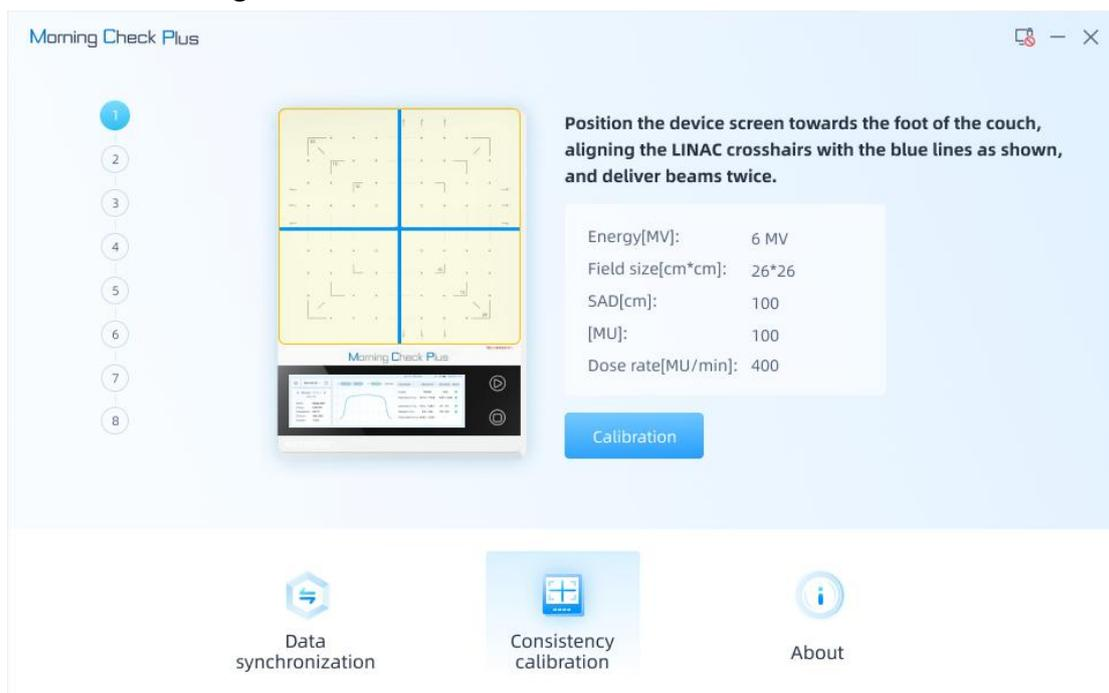
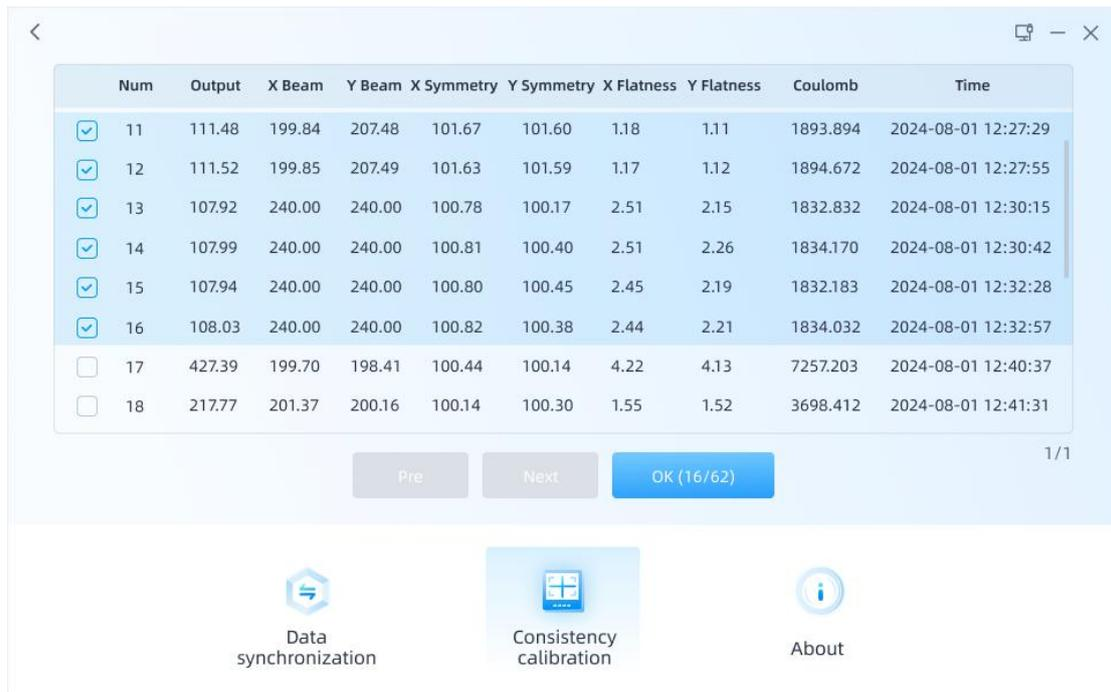

Figure 23. Consistency Calibration\_Step-by-Step Instructions
Figure 24. Consistency Calibration\_Data Selection
- In the client, navigate to the Consistency Calibration interface (Figure 23) and follow the 8-step calibration diagram to perform beam measurements. Each step requires two beam deliveries, resulting in a total of 16 measurements.
- Click Calibration in the "Consistency calibration" interface (Figure 23), select the corresponding 16 sets of data, and click OK (16/62) (Figure 24). Once calibration is complete, the client will display a confirmation window indicating that it was successful.